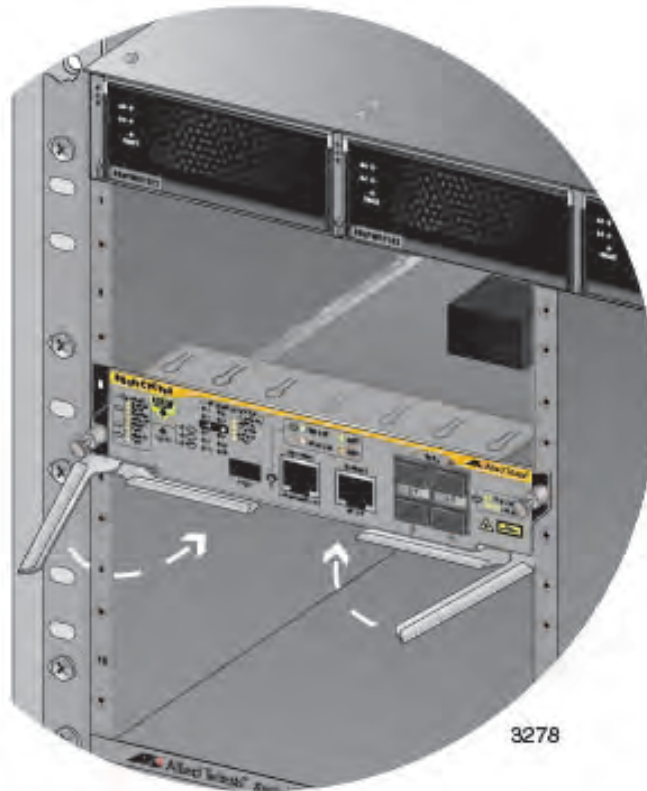

Figure 77. Closing the Locking Levers on the AT-SBx81CFC960 Controller Fabric Card
8. When you feel the card make contact with the connector on the backplane of the chassis, carefully close the two locking levers on the front panel of the controller card to secure it in the chassis, as shown in Figure 77 on page 152.